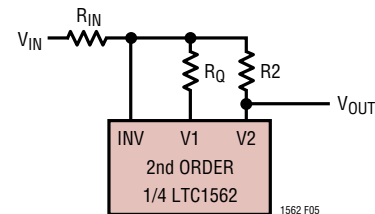
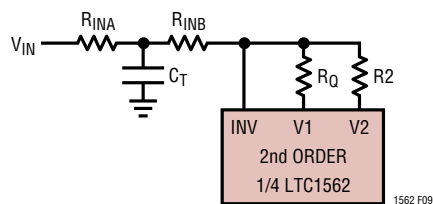

Figure 5. Basic Lowpass Configuration
Figure 9. Lowpass “T” Input Circuit
When Z_{IN} of Figure 3 is a resistor of value R_{IN} , a standard 2nd order lowpass transfer function results from V_{IN} to V_2 (Figure 5):
- Lowpass response (resistor input, V2 output, Figure 5) with $f_0 < 100\text{kHz}$
The virtual ground INV input in the Operational Filter block provides a means for adding an “extra” lowpass pole to any resistor-input application (such as the basic lowpass, Figure 5, or bandpass, Figure 6a). The resistor that would otherwise form Z_{IN} is split into two parts and a capacitor to ground added, forming an R-C-R “T” network (Figure 9). This adds an extra, independent real pole at a frequency: